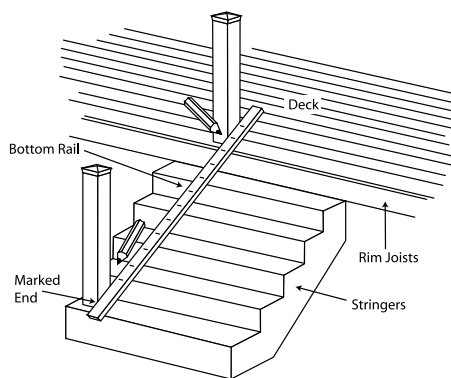

Figure 19
4. Lay bottom rail on stair with marked end at lower post. Center the rail between the posts so that the distance from the post to the first routed hole is equal on both ends. (Fig 19).